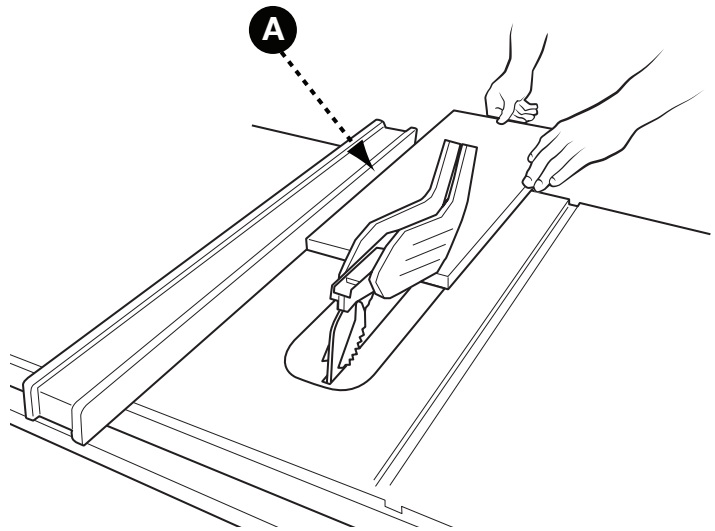

FIGURE 36
8. Hold the workpiece flat on the table and against the fence (A). The workpiece must have a straight edge against the fence and must not be warped, twisted or bowed. See proper hand position in Figure 36.